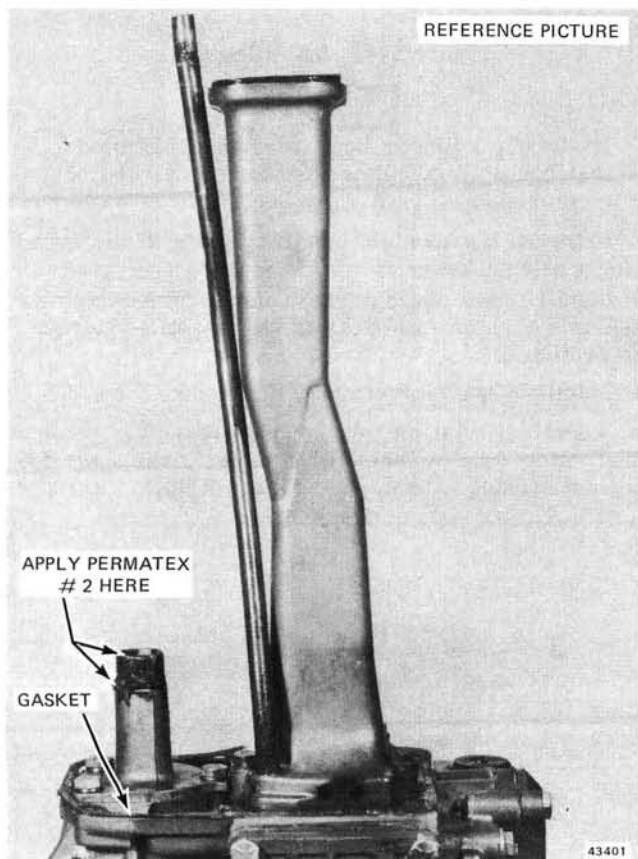

Figure 5-45. Sealing Crankcase Head
k. Install exhaust and water tube assembly using a new water tube grommet and a new crankcase-to-exhaust housing gasket. See Figure 5-45.
b. Apply Permatex #2 to crankcase head in area shown. See Figure 5-45. Clean gasket surfaces and apply OMC Gasket Sealing Compound to face of exhaust housing. Coat driveshaft splines with OMC Moly Lube. Do not coat top surface of shaft as lubricant here may prevent seating of driveshaft in crankshaft. Carefully lower power head onto exhaust housing.